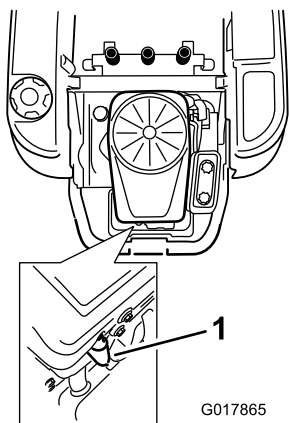

Figure 34
3. Disconnect the wire from the spark plug (Figure 34).